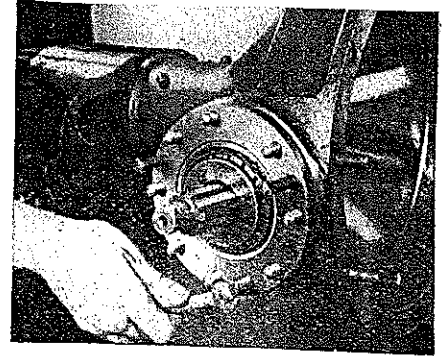

Fig. 164 Remove pinion and cage, using puller screws in holes provided
4. Remove pinion and cage assembly, using puller screws in holes provided, Fig. 164. Driving pinion from inner end with a drift will damage the bearing lock ring groove.